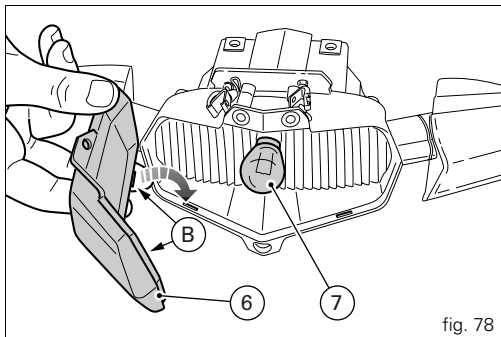

fig. 78
To change the brake light bulb, proceed as above and also remove the brake light lens (6) from its support. Push and twist the bulb (7) anti-clockwise to remove it (fig. 78).